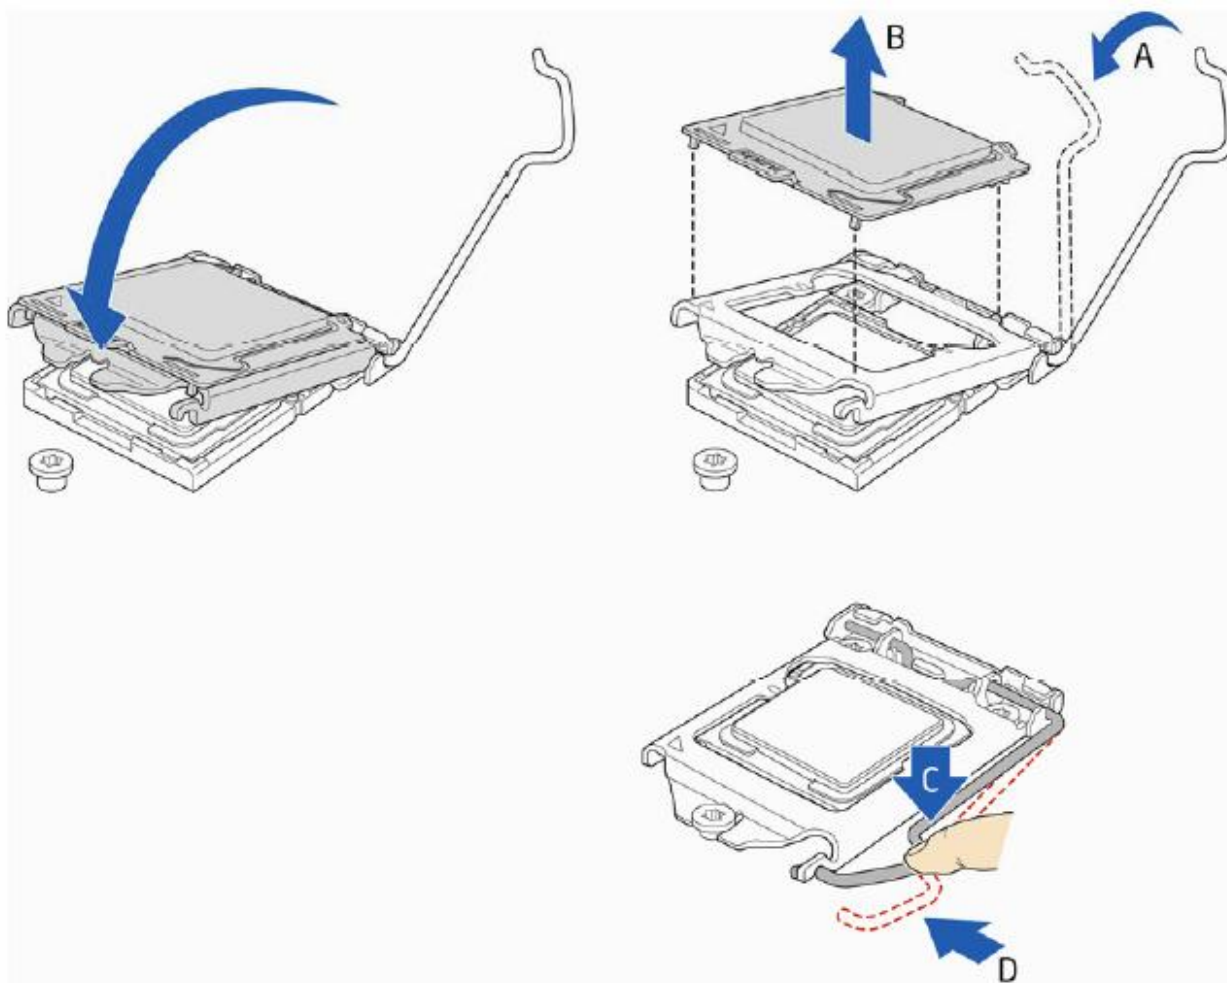

Figure 16: Secure the load plate in place
- Carefully lower the socket lever (Figure 16, A) while making sure that the front edge of the load plate slides under the shoulder screw cap as the lever is lowered. Latch the socket lever under the load plate tab (Figure 16, C, and D). The socket cover (Figure 16, B) will pop off as shown.